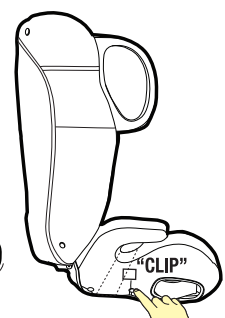

Figure 1.4
- Step 7:** Fold the armrest cover back over the armrest and secure the front press stud (the rear press stud can remain unclipped) (refer Figure 1.4).